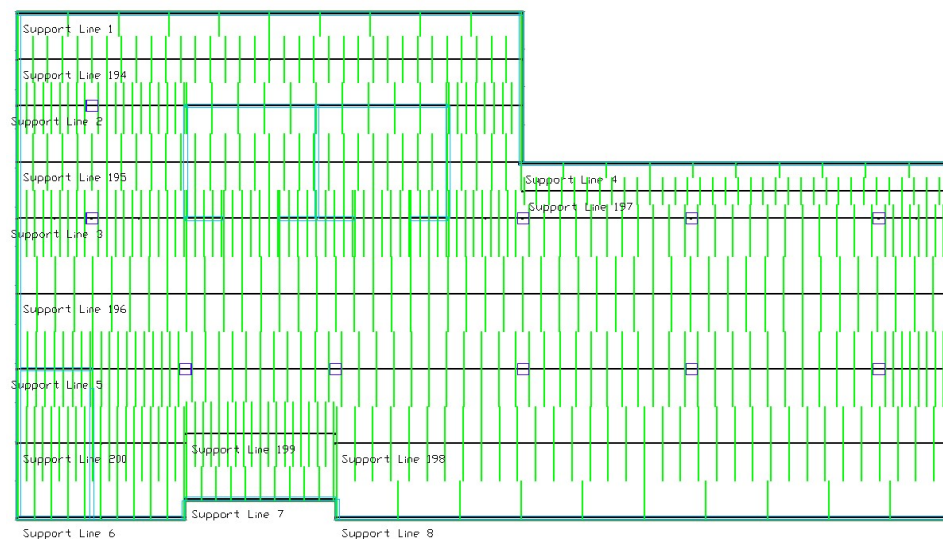

FIGURE 6.8-8 SUPPORT LINES AND DESIGN SECTIONS RESULTS IN X-DIRECTION
- Figures 6.8-8 and 6.8-9 shows support line example results for the graphical code check.